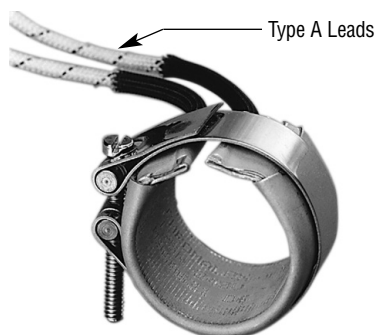
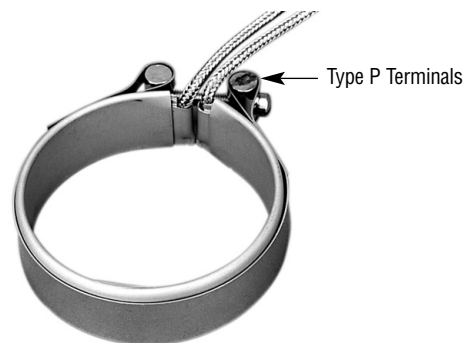

Figure 1 — One-Piece Construction
Figure 2 — Two-Piece Construction
- C. Available in either one-piece construction (see Figure 1) or two-piece construction (Figure 2).